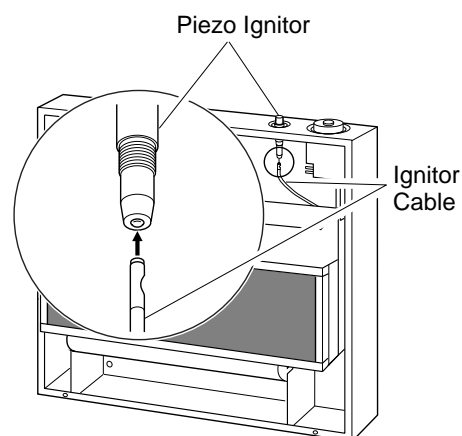

**Figure 2 - Removing Front Panel of Heater**
2. Pull bottom of front panel forward, then down (see Figure 2).